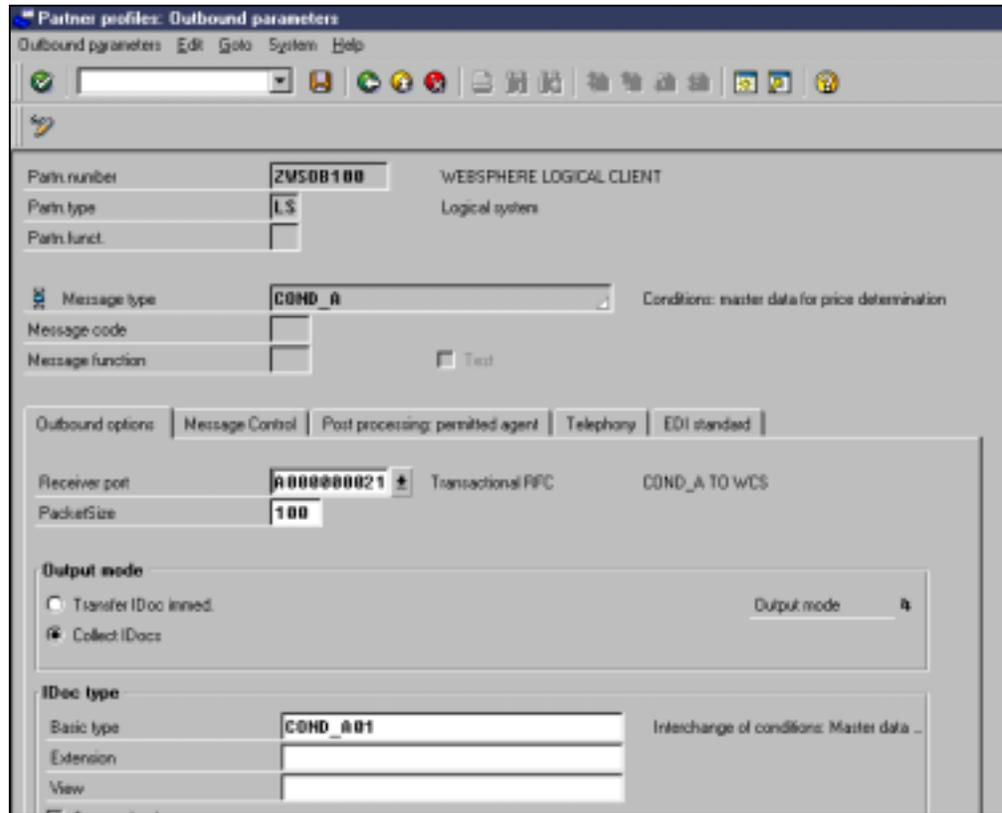

Figure 61: Modifying a partner profile: Changing the receiver port
6. Make changes if required, as shown in Figure 61.